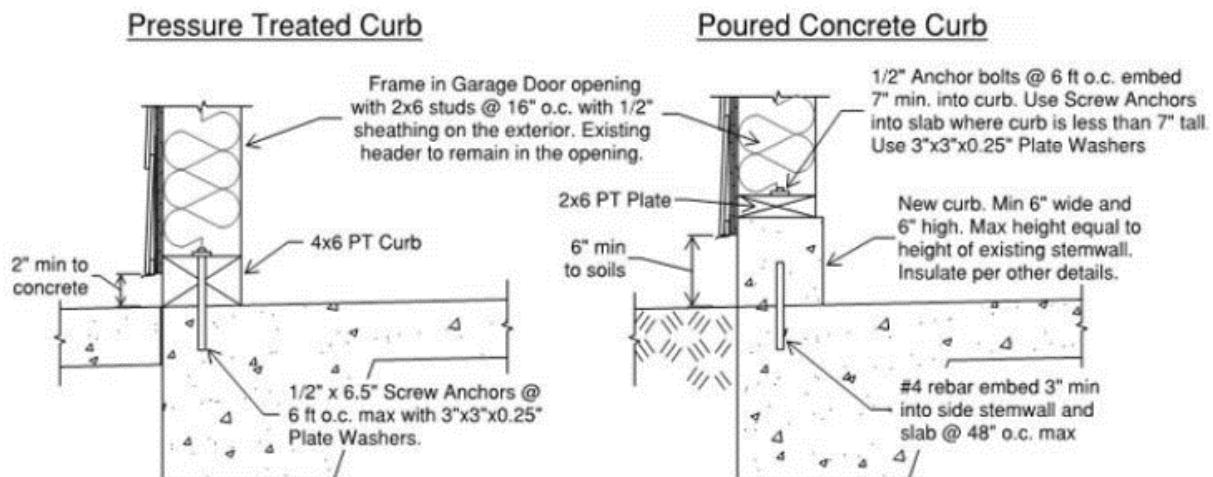

Figure 1: Options for Creating a Curb in the Garage Door Opening
- Infill the existing garage door opening in order to anchor the proposed wall and prevent water intrusion. See Figure 1 curb detail on next page.